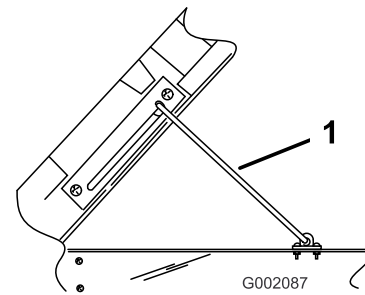

Figure 15
2. Pull the prop rod into the detent slot, securing the box (Figure 15).